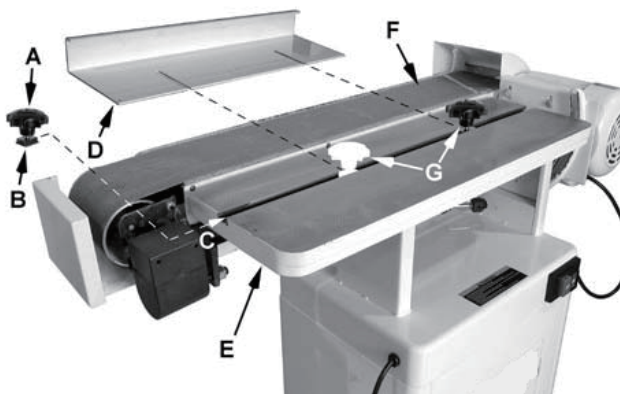
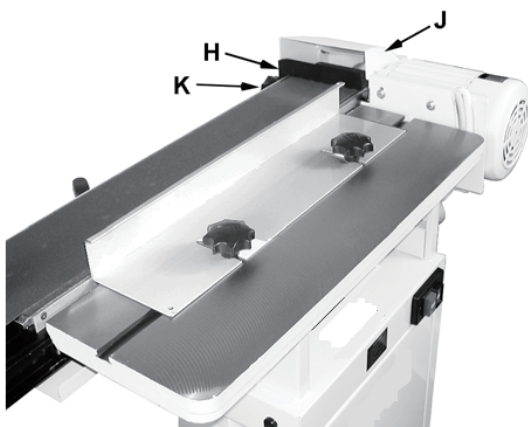
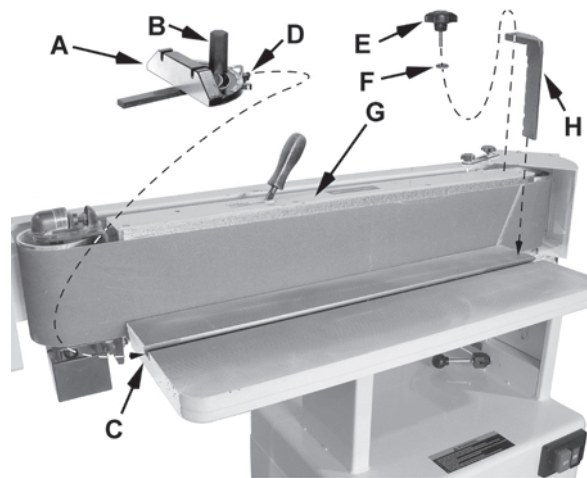

Fig. 13
Fig. 14
Fig. 15
Referring to Figure 13:
1. Place 5/16 flat washers (not shown) and guide blocks (B) on two 12 mm lock knobs (A) – Note: the 12 mm refers to the threaded shaft length.
2. Insert the guide blocks (B) into the miter slot (C) and position the lock knobs (G) on the table (E) as shown.
3. Place the removable fence (D) on the table and secure by tightening the lock knobs (G, Fig. 13 and Figure 14).
The backstop (H, Fig. 14) can also be used by swiveling the drum guard & dust port (J, Fig. 14) out of the way and placing the backstop pin in the positioning hole and securing in place with the lock knob (K, Fig. 14) and 5/16" flat washer.
**NOTE:** This is better shown in Figure 15. The drum guard & dust port (J, Fig. 14) can then be returned to the position shown.
Referring to Figure 15: